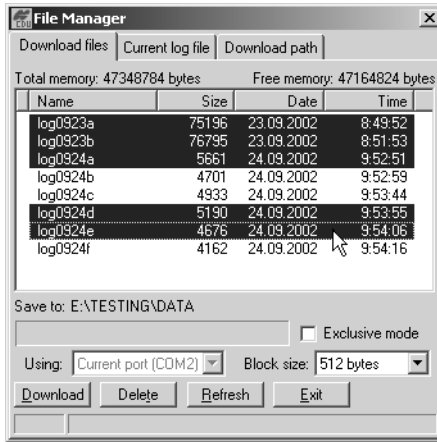

Figure 4-5. Download Files
- Select the file(s) to download (Figure 4-5 on page 4-11).